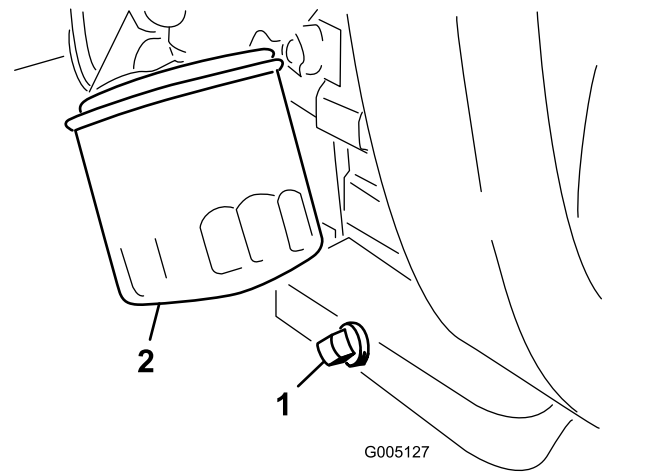

Figure 33
1. Remove the drain plug (Figure 33) and let the oil flow into a drain pan.
2. Clean the threads of the drain plug, apply PTFE sealant, and install the drain plug (Figure 33).
- Remove the oil filter (Figure 33).